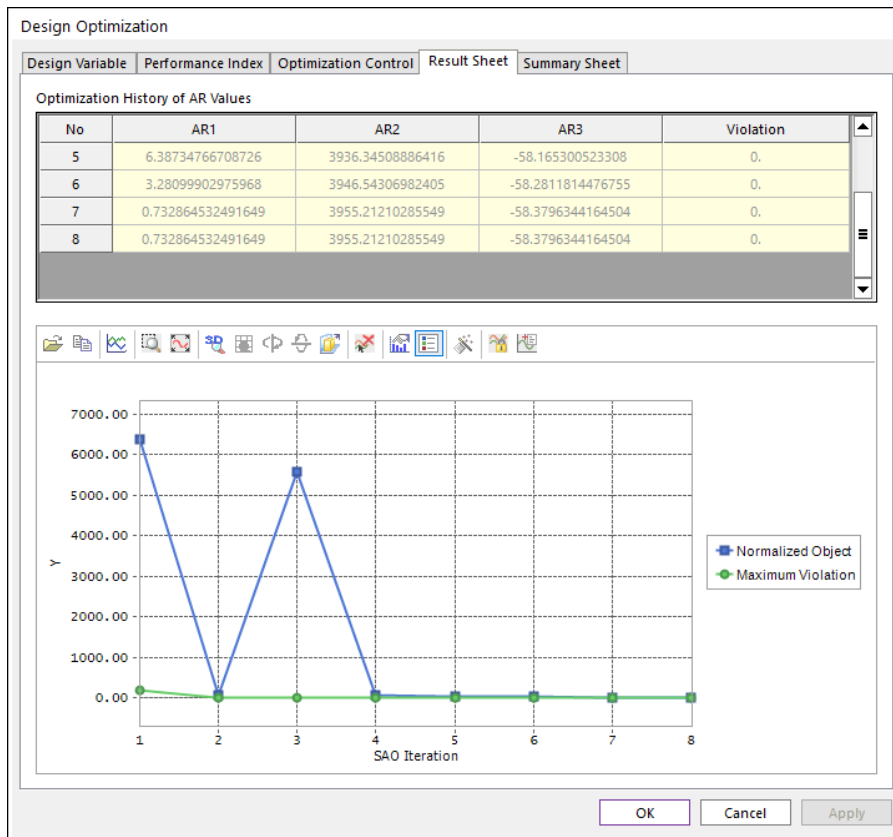
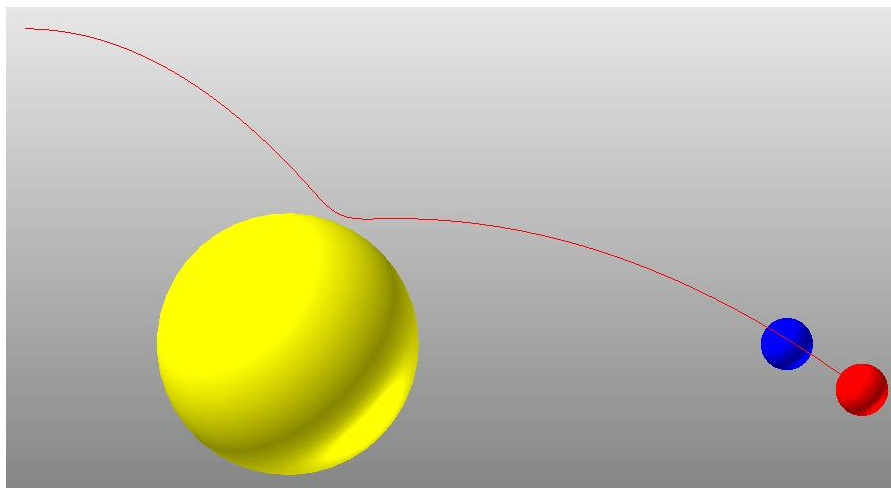

Figure A-5-6 Convergence history
Figure A-5-7 Animation of the final design
- If **AutoDesign** is completed, then you can see the convergence results in **Result Sheet**. Figure A-5-6 shows the optimization results. In **RecurDyn**, the final value of AR1 is **0.732(mm)** after **8** iterations. Figure A-5-7 shows the trajectory of red ball for **SAO 8**.